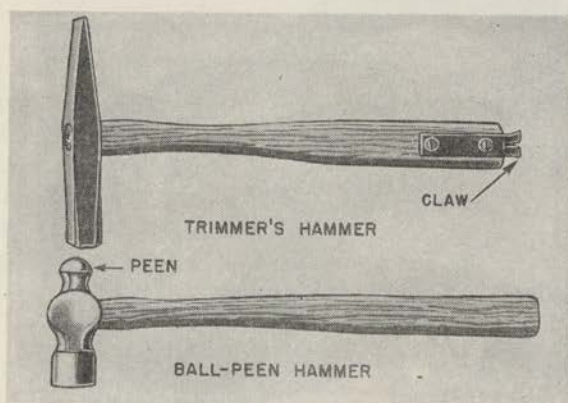

FIGURE 82.—Hammers.
g. Hammers.—A typical trimmer's hammer is shown in figure 82. It is used mainly for driving and withdrawing tacks, for which it has a claw attached to the end of the handle. A ball-peen hammer (fig. 82) is often used for general purposes and the ball-peen is used for upsetting rivets.